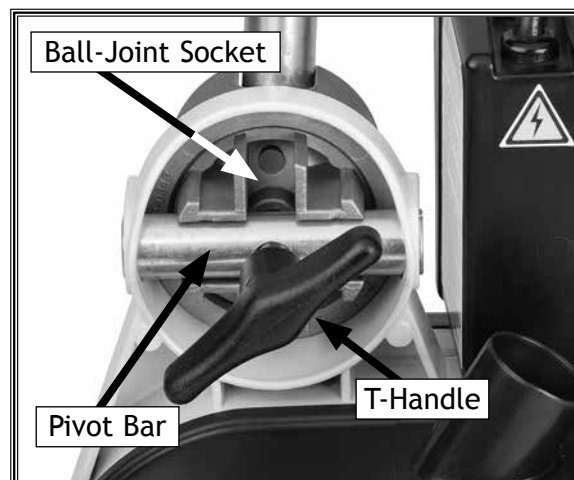

Figure 28. Assembled ball joint assembly.
5. Insert the ball-joint socket into the power feed socket as shown in **Figure 28**, so it rests against the ball-joint ball.
6. Align the ball-joint socket with the power feeder socket and insert the pivot bar, as shown in **Figure 28**.
8. Thread the T-handle through the pivot bar so the end of the T-handle bolt presses against the ball-joint socket firmly, as shown in **Figure 28**.